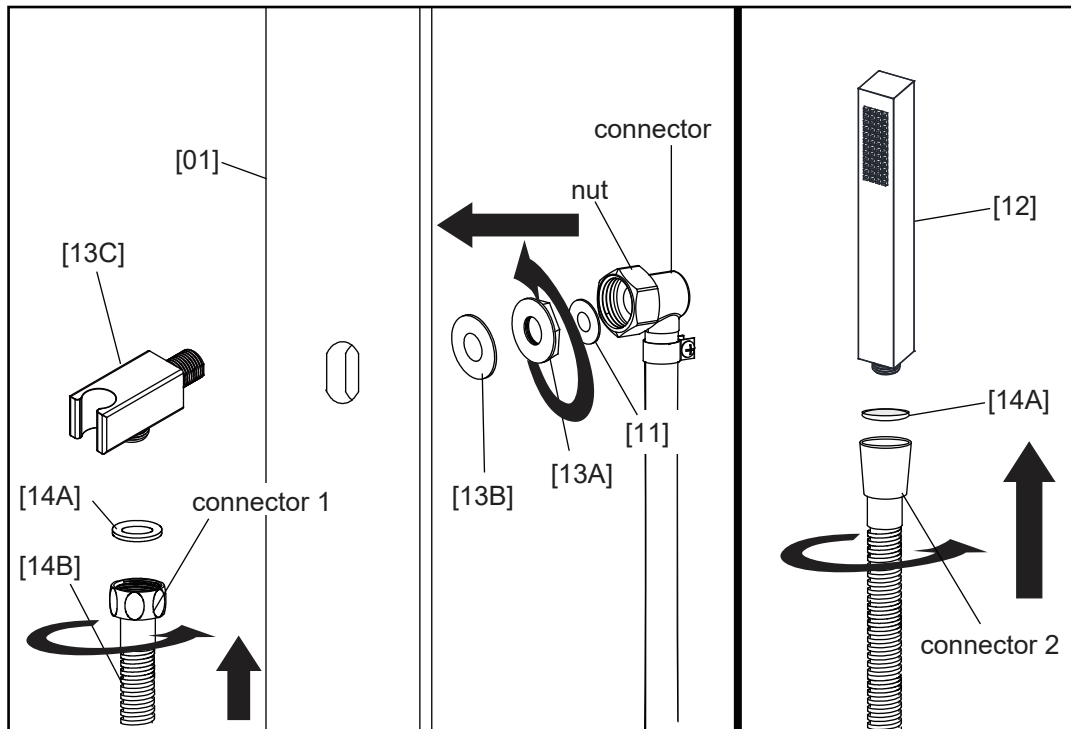
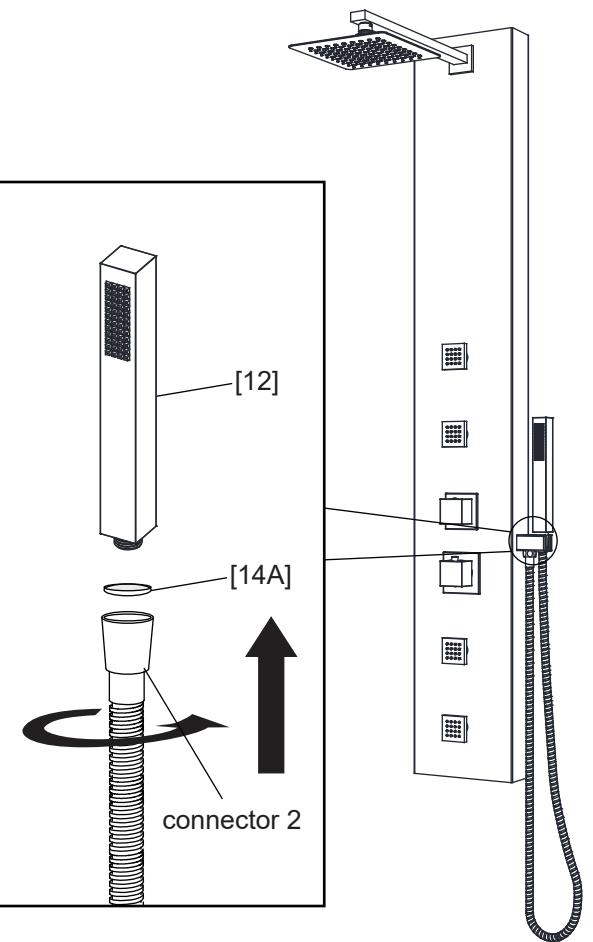

Fig 4.1
Fig 4.2
- 4-1** Install the **Shower Holder [13C]** through the hole from the right of **Shower Panel [01]**. Make sure the shower hose connector faces downward. (Fig 4.1)
- 4-2** Slide the **Washer [13B]** to the **Shower Holder [13C]** from the inside of **Shower Panel [01]** and secure it by tightening the **Nut [13A]**. Do not over tighten. (Fig 4.1)
- 4-3** Install the **connector** with **Washer [11]** in it to the **Shower Holder [13C]**. Then tighten the **nut** of the **connector** to secure. (Fig 4.1)
- 4-4** Connect the **connector 1** of **Shower Hose [14B]** to **Shower Holder [13C]** and **connector 2** to **Hand shower [12]**. Tighten the connectors to secure. Make sure there are washers inside the connectors. (Fig 4.1, Fig 4.2)